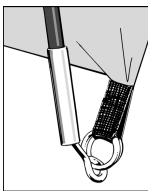

Figure 1.
- Locate pole sleeves on the flysheet and insert poles, one at a time (The poles are colour coded to match corresponding pole sleeve entry points). Locate one end of each pole into corresponding pin system on flysheet (see fig. 1).
1. Locate one end of each pole onto the corresponding metal pin. The metal pin inserts into the hollow metal ferrule on the end of each pole. **(See Figure 1)**. Push the pole into a curve from the opposite side, one at a time, and locate all pole ends onto the metal pins.